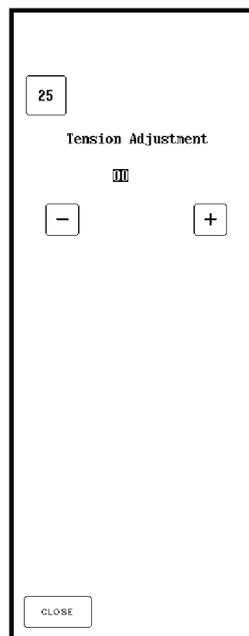
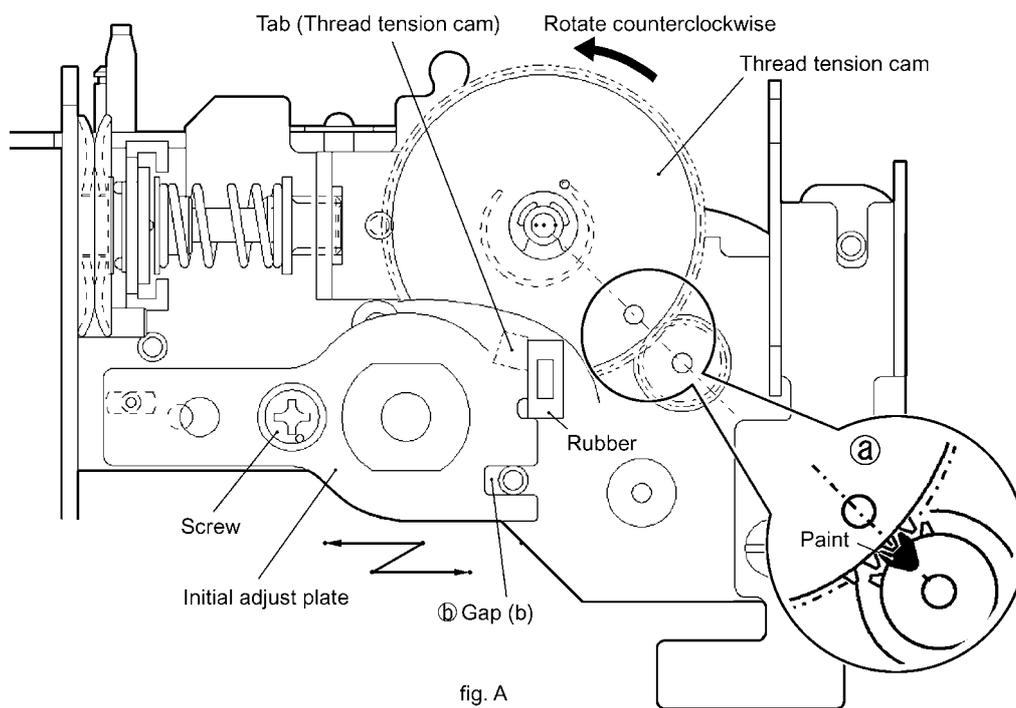

fig. 2
fig. 4
2. Press "25". (Fig. 2)
3. Set the offset value to 0. (Fig. 2)
7. To finely adjust while sewing, after performing the above adjustment, enter the test mode, press "25" (Fig. 2), and press the S/S key while performing test sewing. (Fig. 4)